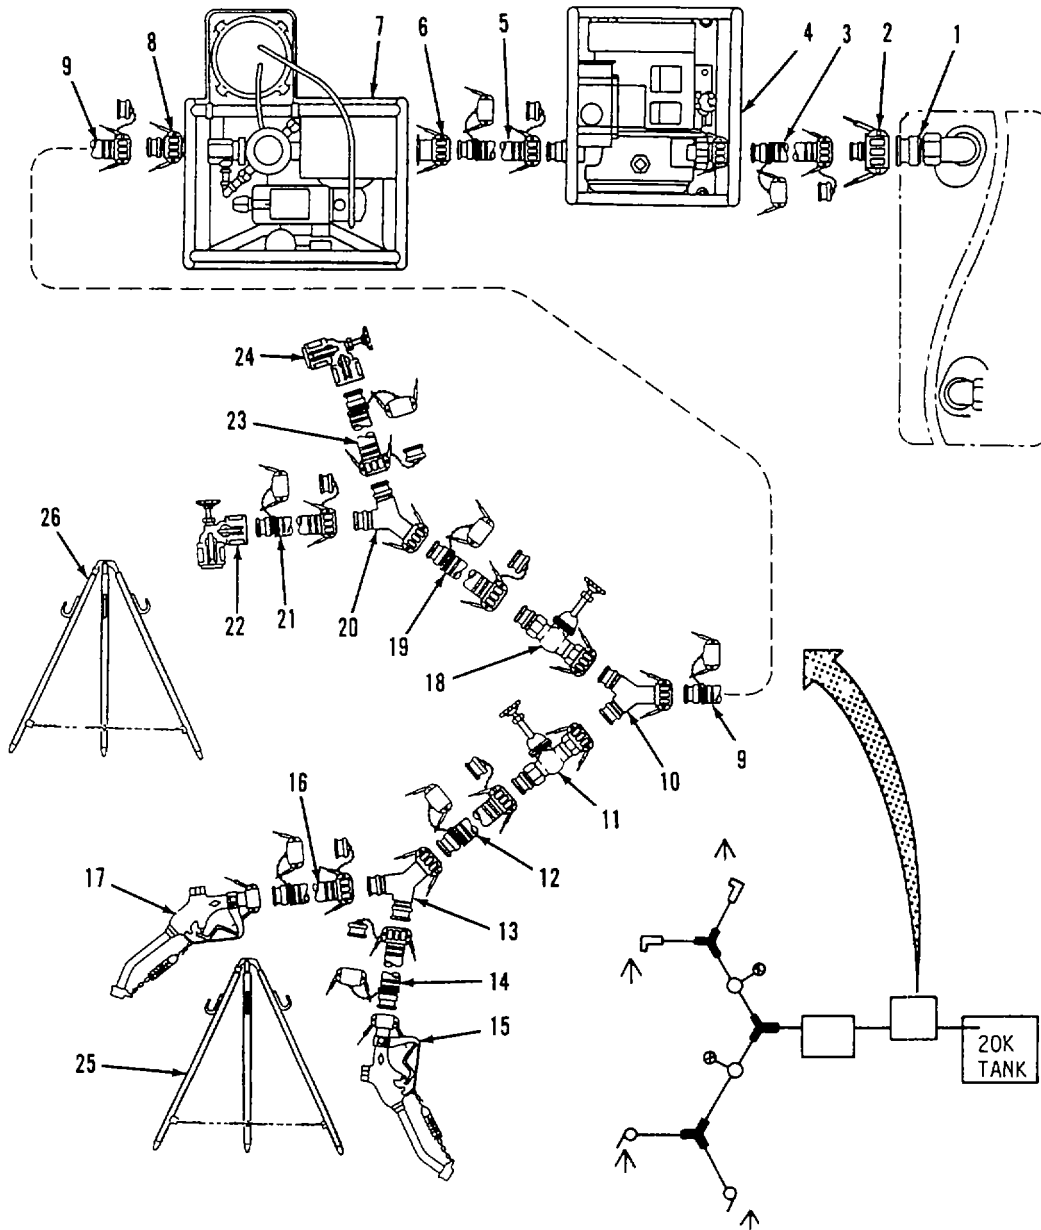

Figure 2-31. Distribution Point assembly.
- a. Disassemble Distribution Points Refer to figure 2-31.
- (8) Disconnect 1 1/2 inch distribution nozzle (17) from 2 inch x 20 feet discharge hose (16) Figure 2-31 Distribution Point Disassembly.